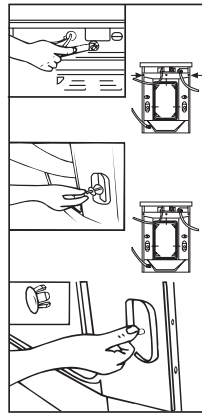

Fig.2
- Remove the packing screws as shown in Fig.2.